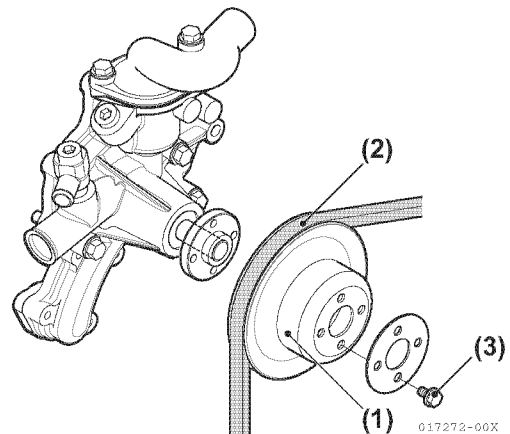

Figure 6-77
13. Reinstall the coolant pump V-pulley **(Figure 6-77, (1))**, spacer.
14. Reinstall the cooling pump V-belt **(Figure 6-77, (2))**. *See Replace Coolant Pump Belt and Pulley on page 7-23.*